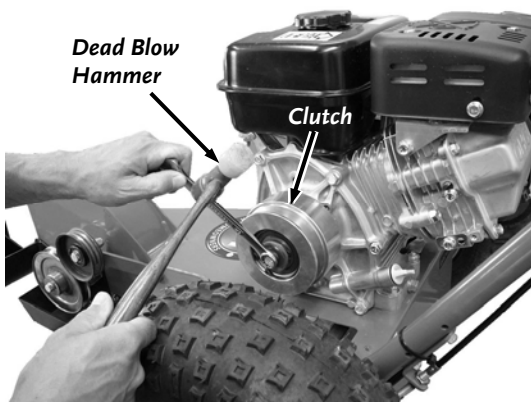

Figure 25
1. Place a 1/2" Wrench (6HP) or 5/8" Wrench (9HP) onto the Clutch Bolt and rotate the Wrench counterclockwise until you feel some resistance (**Figure 25**).